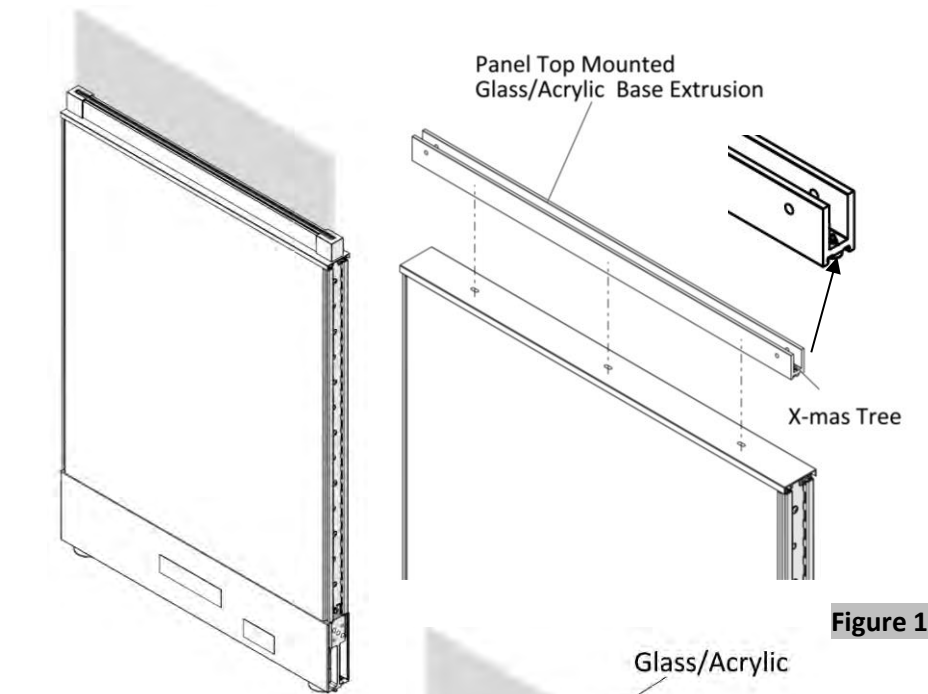

Figure 1
1. Check the panel top-mounted glass /acrylic base extrusion if there is a X-mas tree on both ends before placing it on top of the top trim, (Figure 1).